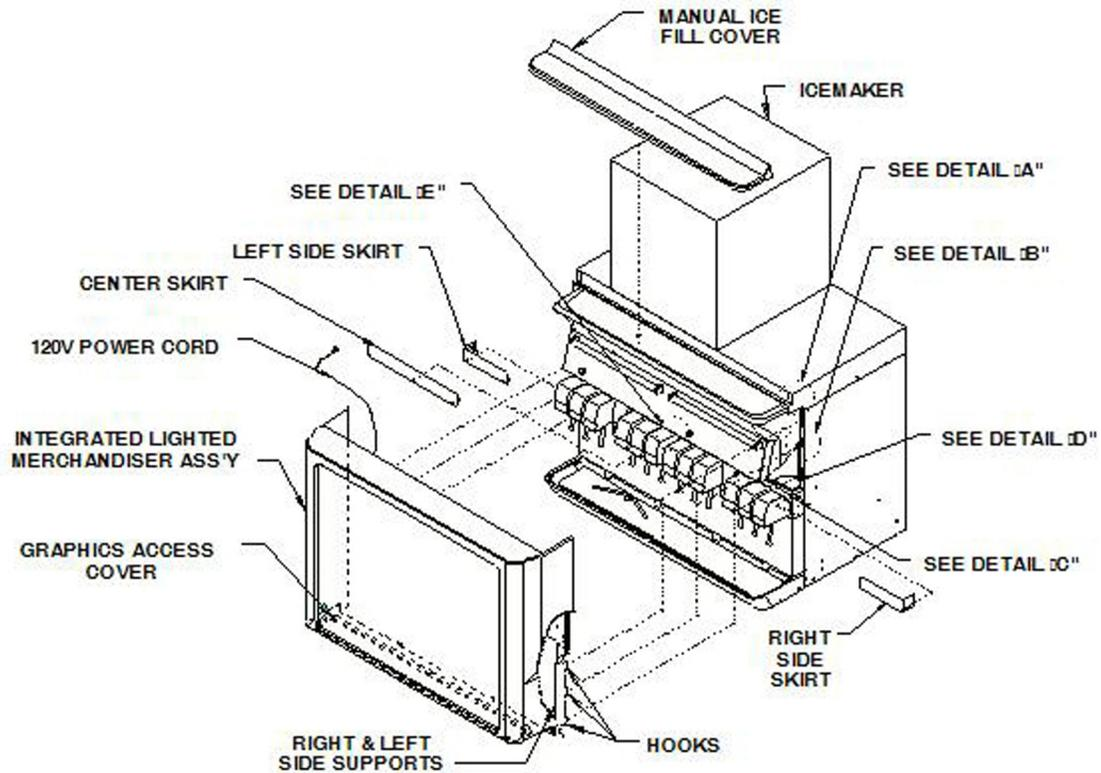

Figure 2.
2. Install the integrated merchandiser assembly on the dispenser cabinet (see Figure 2 and Figure 3, Detail B). Make sure that the (3) hooks on both the left and right main supports are fully seated in the corresponding slots in the cabinet.
5. Install the clear graphics access cover to the inside of the merchandiser with (2) No. 8-32 thumbscrews.
6. Using (2) No. 8-32 thumbscrews and captivating washers, secure the merchandiser to the left and right skirts (see Figure 2).